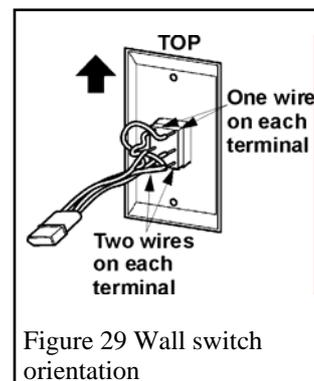

Figure 29 Wall switch orientation
- When fitting the wall plate to the wall box, attach the way up shown in figure 29 so that pressing the upper half of the switch increases the flames.
- If using the wall switch, attach the wall plate the way up shown in figure 29 so that pressing the upper half of the switch increases the flames.